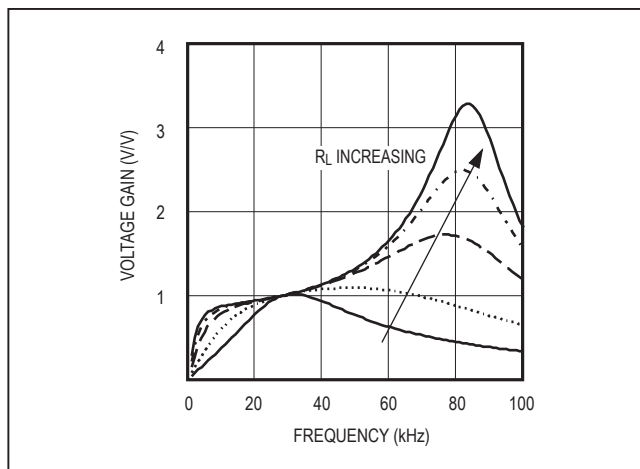

Figure 8. Frequency Response of the Resonant Tank
Figure 8 shows the frequency response of the resonant tank's voltage gain under different load conditions. The primary series capacitor is 1 $\mu$ F, the secondary parallel capacitor is 15pF, the transformer turns ratio is 1:78, and the secondary leakage inductance is 260mH. Notice that there are two peaks,  $f_S$  and  $f_P$ , in the frequency response. The first peak,  $f_S$ , is the series resonant peak determined by the secondary leakage inductance (L) and the series capacitor reflected to the secondary ( $C'_S$ ):